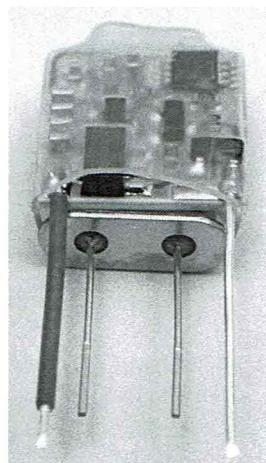

Fig. 2
2. Warm the heat shrink tubing to hold the circuit next to the crystal (Fig. 2), ensure that the temperature is not too high.